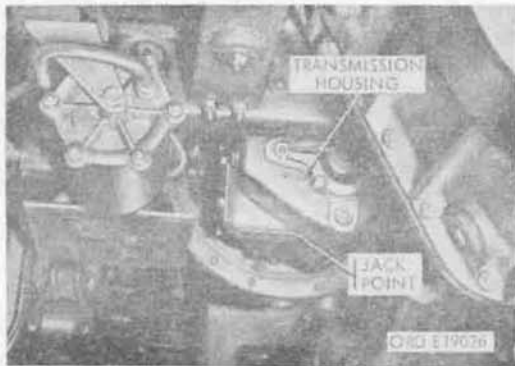
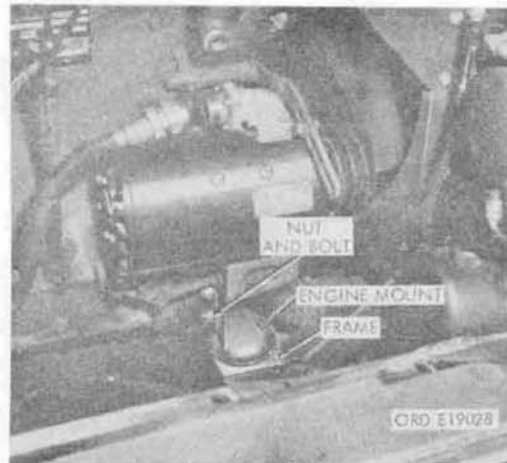

Figure 93. Rear jack point
Figure 94. Engine front mounts
- (2) Place a jack under the transmission and raise the power plant enough to facilitate removal of the rear mounts (fig. 93).
- (3) Remove the engine rear mounts and install new mounts.
- (4) Remove the nut and bolt on each side of the engine securing the engine and the engine front mounts to the frame (fig. 94).
- (c) Disconnect engine at front mounting support (fig. 94). Remove the horizontal hex-head screws and safety nuts that hold the engine support to the frame front crossmember.
(2) Vehicles equipped with front winch.